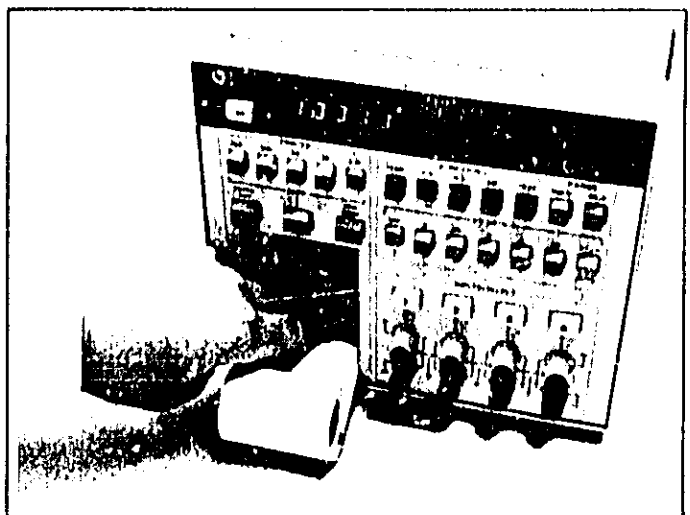

Figure 2-2. Installing Thermal Paper.
d. Temporarily place the paper roll into the paper well door and guide the leading edge of the paper into the slot at the rear top of the paper well. Refer to Figure 2-2 or the illustration on the inside of the paper well door.